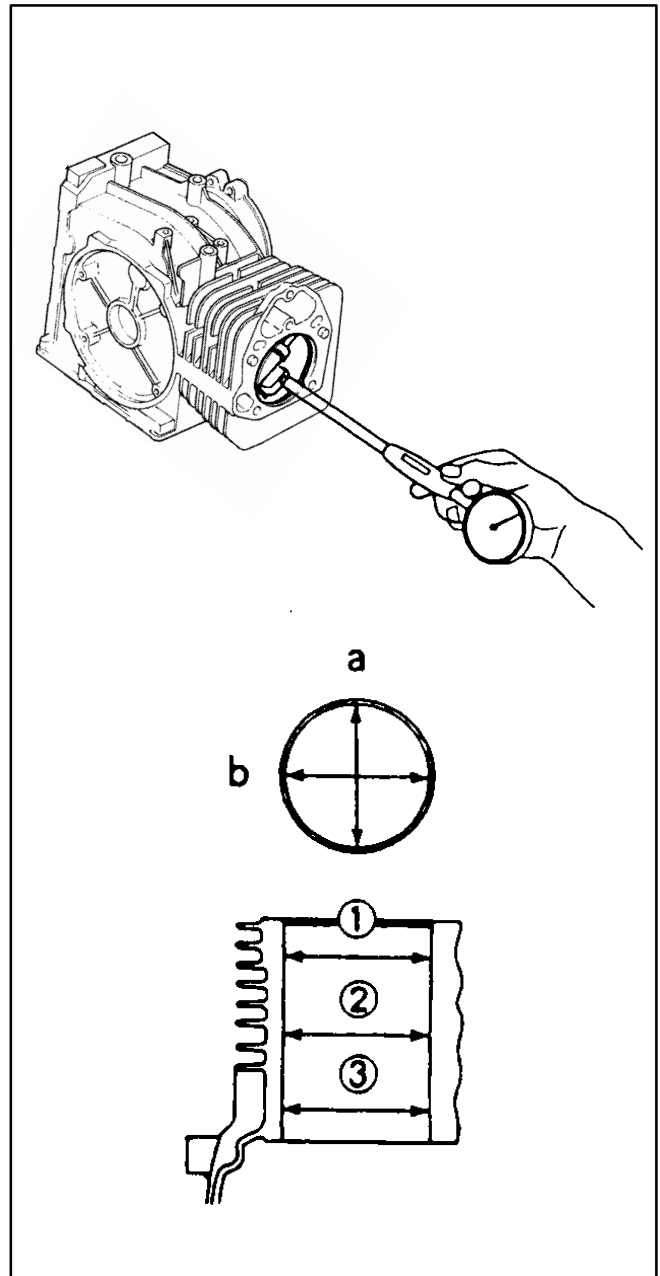

FIGURE 10-20. MEASURING CYLINDER WEAR
1. Measure the I.D. of the cylinder liner with a cylinder gauge at six points as shown in Figure 10-20.